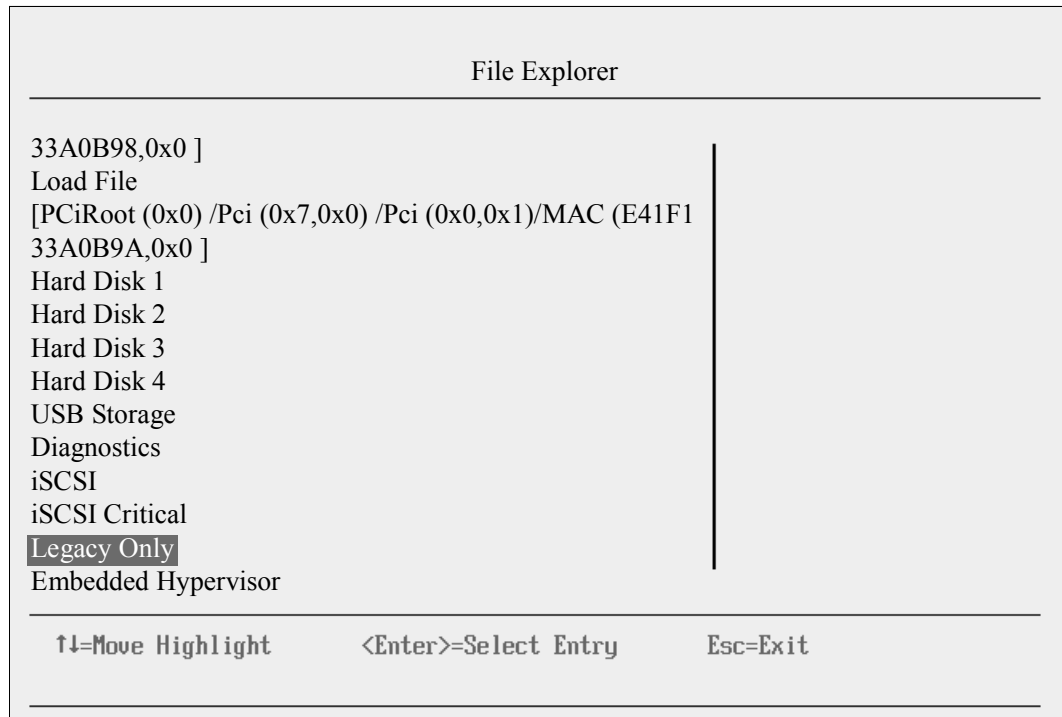

Figure 9-202 File Explorer panel
4. In the File Explorer panel (Figure 9-202), highlight **Legacy Only**, and press Enter.